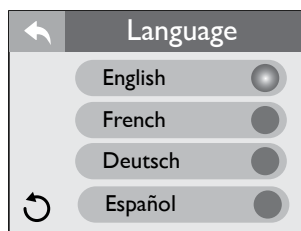

Figure 12.10b
1. There are 4 languages to select from: English, French, Deutsch, and Español. To select a language, tap ● next to the language you want to display, Figure 12.10b.